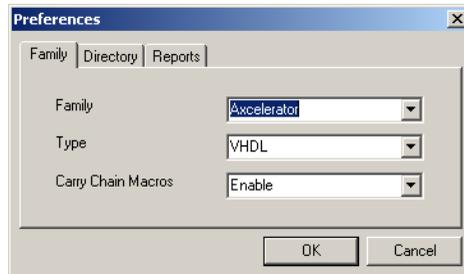

Figure 1-4. Preferences Dialog Box - Family Tab
- 1. From the File menu, select Preferences.** The Preferences dialog box appears, as shown in Figure 1-4.
The Axcelerator Family offers fast carry-chain macros for a compact design of Arithmetic Macros and Counters. FC macros for Axcelerator are enabled by default. You may choose to use regular macros for the Axcelerator family; to do so, open the Preferences dialog box to the Family tab (Figure 1-4). Select Disable from the “Carry Chain Macros” drop down menu to disable Fast Carry